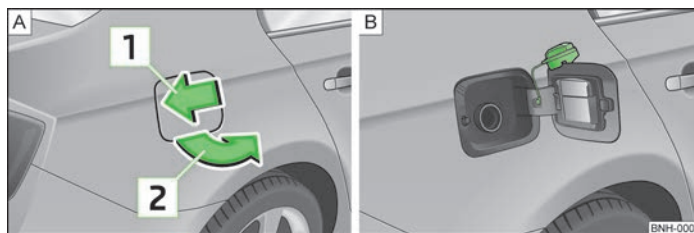

Fig. 95 Right rear side of the vehicle: Fuel filler flap/fuel filler flap with cap unscrewed
The correct type of fuel for your vehicle and the tyre size and inflation pressure are specified on the inside of the fuel filler flap » Fig. 95 on page 124 - [B].
A scraper » Fig. 95 on page 124 - [B] to remove snow and ice from the windows and mirrors is located on the inside of the fuel filler flap » page 120, *De-icing windows and exterior mirrors*.
- Press on the fuel filler flap in the direction of the arrow [1] » Fig. 95.
- Unscrew the filler cap by turning it to the left and place the cap onto the top of the fuel filler flap » Fig. 95 - [B].